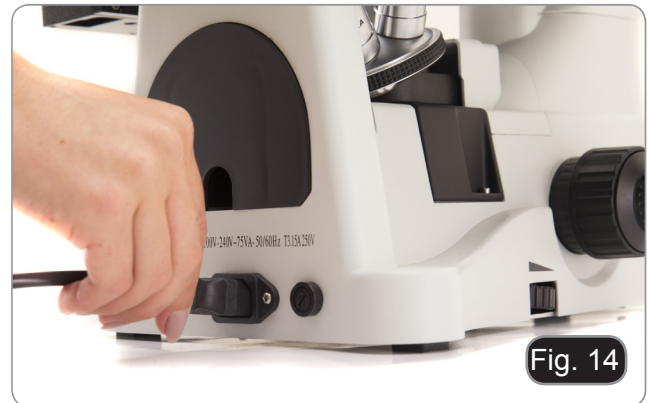

Fig. 14
2. Insert the cable into the power socket of the microscope. (Fig.14)